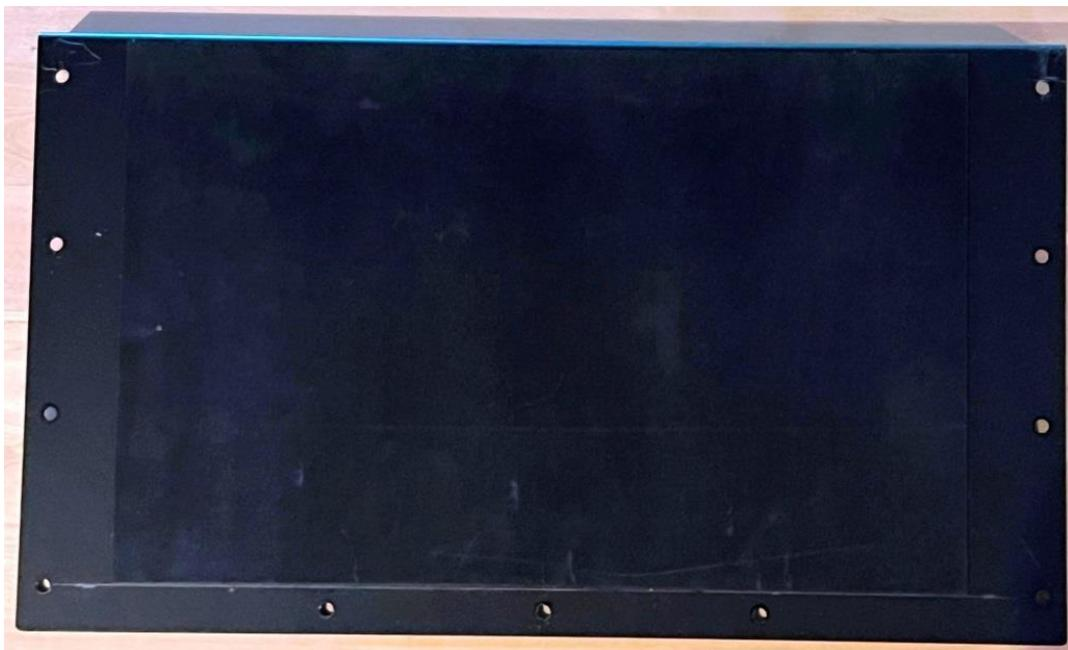

Figure 20. Self-sticking dampening sheet attached to the underside of top chassis plate.
- For attaching to the underside and internal sides of the chassis, I used INOAC's 0.5 mm self-sticking dampening sheet "CALMFLEX" (Fig. 20). <https://www.inoac.co.jp/en/solution/calmflex.html>